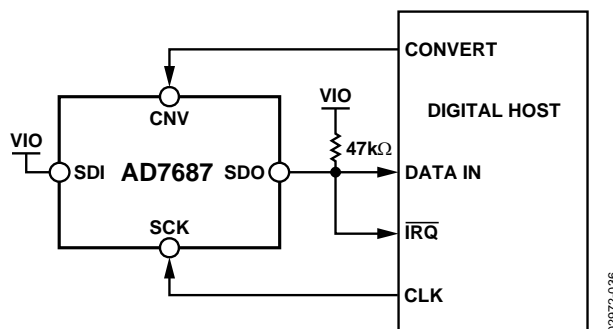
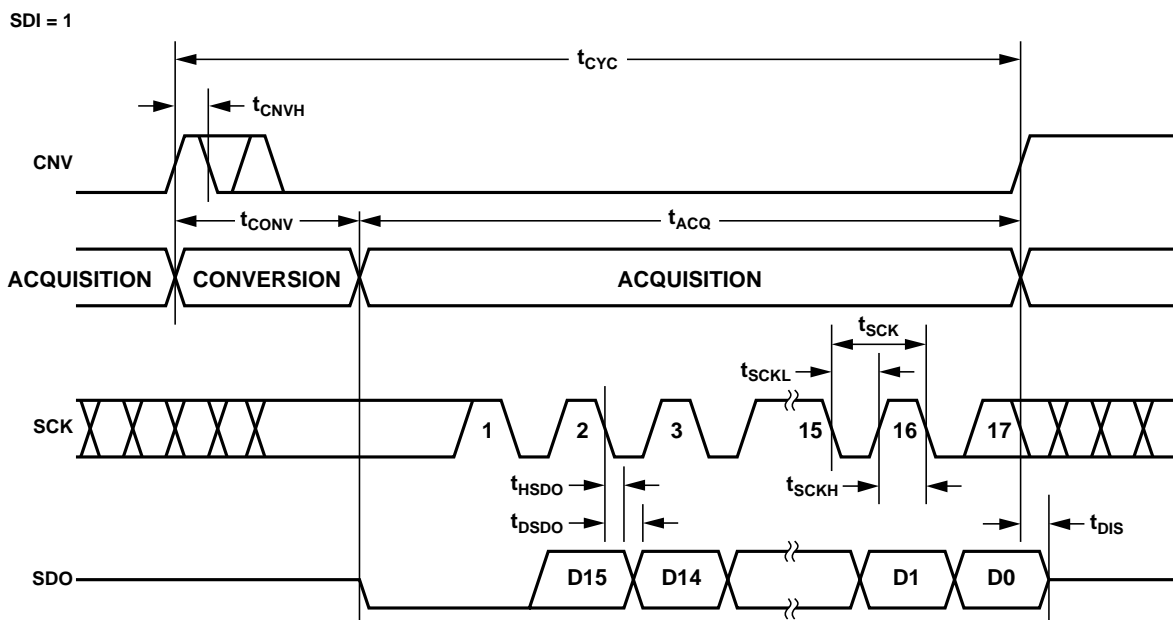
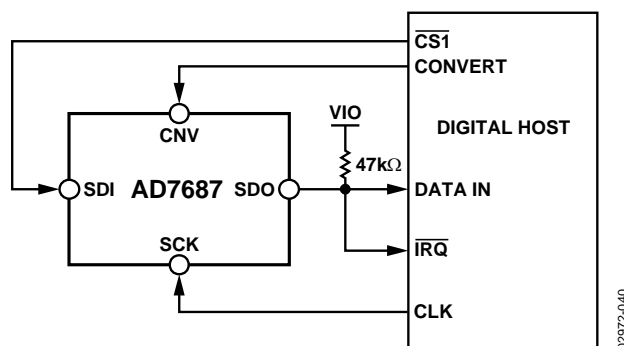
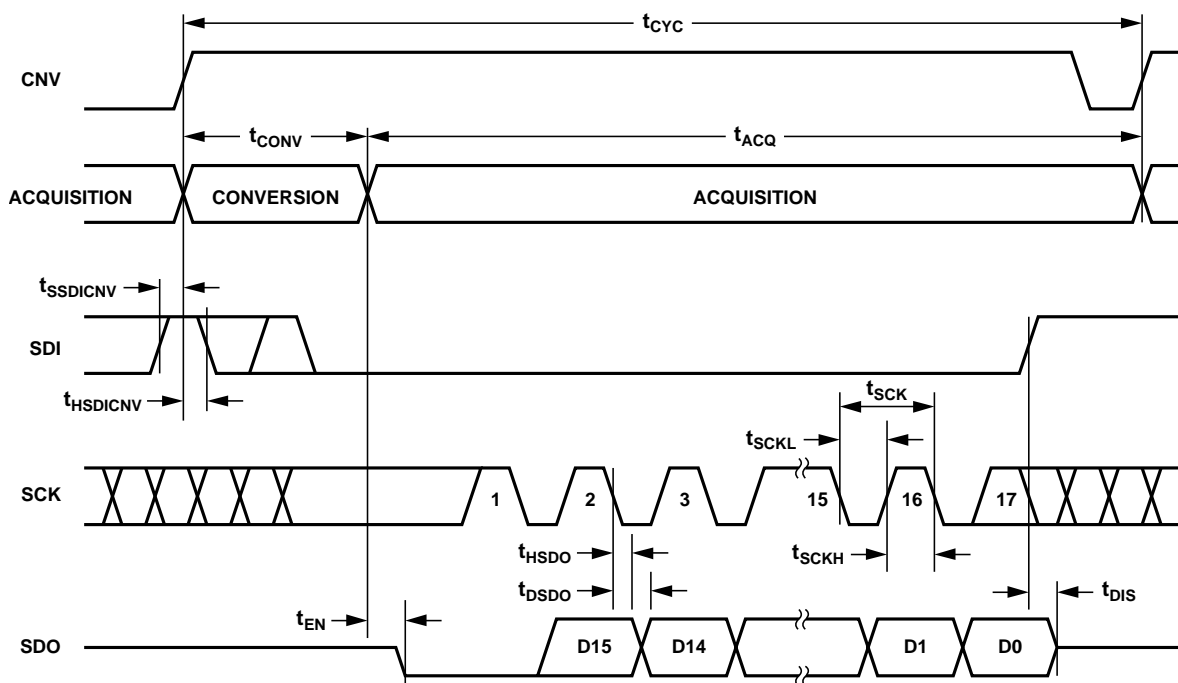

Figure 37. $\overline{\text{CS}}$ Mode 3-Wire with $\overline{\text{BUSY}}$ Indicator Connection Diagram (SDI High)
Figure 38. $\overline{\text{CS}}$ Mode 3-Wire with $\overline{\text{BUSY}}$ Indicator Serial Interface Timing (SDI High)
Figure 41. $\overline{\text{CS}}$ Mode 4-Wire with BUSY Indicator Connection Diagram
Figure 42. $\overline{\text{CS}}$ Mode 4-Wire with BUSY Indicator Serial Interface Timing
- In the $\overline{\text{CS}}$ mode, if CNV or SDI is low when the ADC conversion ends (Figure 38 and Figure 42).
The connection diagram is shown in Figure 37 and the corresponding timing is given in Figure 38.
The connection diagram is shown in Figure 41 and the corresponding timing is given in Figure 42.